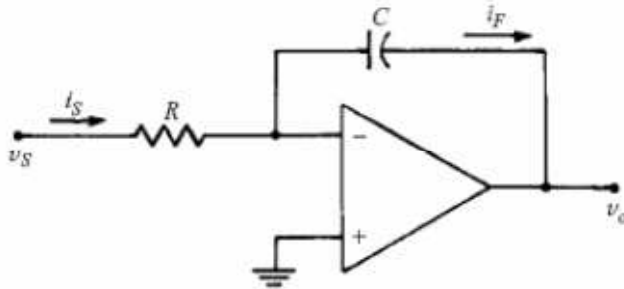

Fig. 2 Integrating Amplifier
The insertion of a capacitor in the feedback path of an op-amp results in an output signal that is a time integral of the input signal. A circuit arrangement for a simple inverting integrator is given in Fig.2.
3. Connect the CR combination as shown in figure 2.